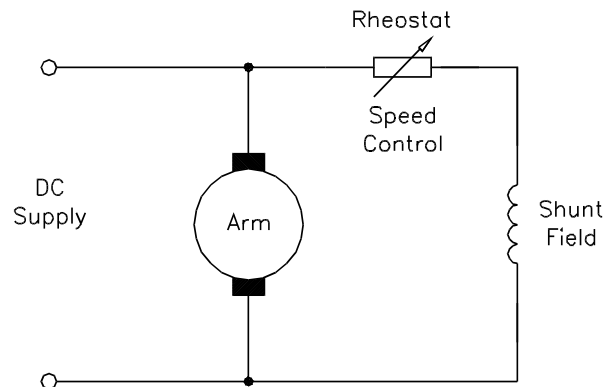

Figure 54. Shunt motor
20. In the most common form of self-excited generator, the field windings are connected across the armature as shown in Figure 54 and the armature is assumed to be driven by a prime mover. This type of generator is referred to as a SHUNT GENERATOR.
21. Figure 54 shows the shunt field connected in parallel with the armature. The output voltage is controlled by a variable resistor, rheostat, in series with the shunt field.